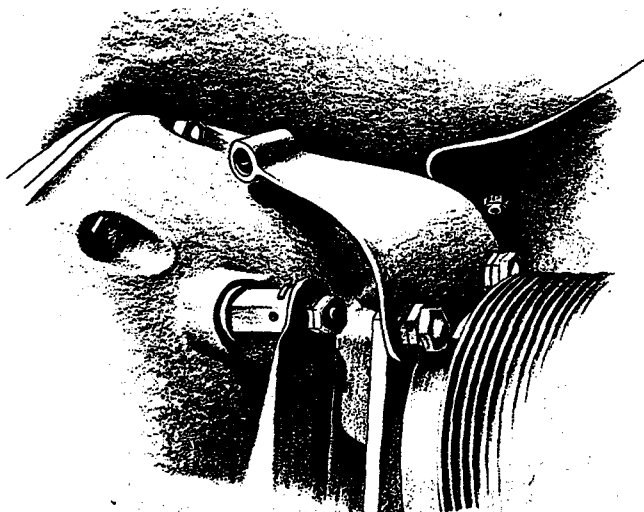
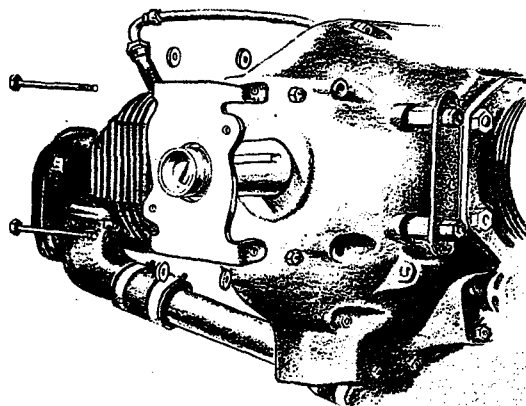

Figure 5—Installation Control Bearing Bracket
Figure 6—Pitch Control Mechanism Bracket
(2) Remove the engine cowling and the fixed-pitch propeller.
(3) Install the control bearing bracket, R002-210, on the two cylinder studs, as shown in figure 5.
(4) Remove the round snap button cover from the hole in the fire wall and slide the control shaft onto the shaft section installed in the airplane.
(5) Mark the rear shaft to indicate the depth it slides into the universal, remove both shaft sections from the airplane, fit them together. Then drill a No. 30 (.128) hole through the universal and shaft. The control crank and shaft can be removed by loosening the screw in the bracket holding the 90-degree drive and sliding it aft.
(6) Replace the shaft sections in the airplane and fasten them together with an AN392-21 flathead pin and safety with an AN380-21 cotter pin.
(7) Remove the two crankcase bolts located above and below the propeller shaft. (See figure 6.)
(8) Install the mounting bracket, using the two AN4-35 bolts supplied with the kit. Install a washer between each arm and the engine crankcase. (See figure 6.)